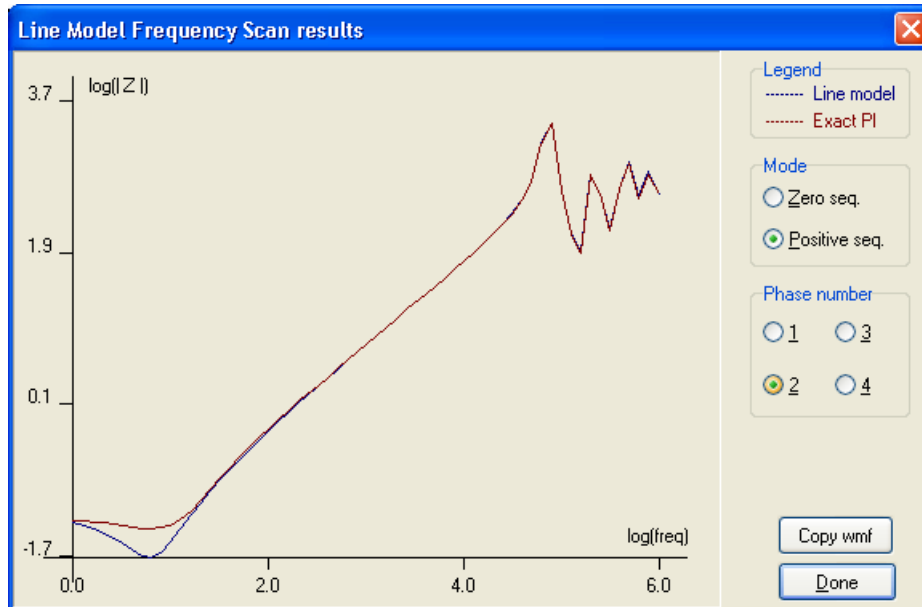

Fig. 5.36 - Verifying a JMarti line model 1 Hz to 1MHz. Model is OK for $f > 25$ Hz.
a) Select LMFS: Clicking on *OK* will result in the generation of a LMFS data case called *xVerify.dat* and execution of ATP based on the settings of the default ATP command (*Tools/Options/Preferences*). The sources are specified in include files called *xVerifyZ.dat*, *xVerifyP.dat*, and *xVerifyM.dat* for the zero, positive and mutual sequence respectively. The individual circuits are tested simultaneously. The receiving ends are all grounded (over 0.1 mΩ) and all sending ends (if *Circuit number* > 0) attached to AC current sources of 1 Amps. The phase angle of the applied current source for the i^{th} conductor is $-360 \cdot (i-1)/n$ where n is the total number of conductors belonging to that circuit. Phase angle for the zero sequence tests are zero. The mutual coupling works only for 6-phase lines. For circuit one all phases are supplied with zero phase angle sources, while the phase conductors of the other circuit at the sending end are open. The *View old case* button will skip creation of the LMFS data case and trace the program directly to the procedure that reads the *xVerify.lis* file, which contains the input impedances of the electrical model compared to the exact PI-equivalent as function of frequency under various conditions. ATPDraw can read this file and interpretation of the results is displayed in the *LMFS results* window as shown in Fig. 5.36 for the 4-phase JMarti line-model specified in Fig. 5.35.
In Fig. 5.36, the user can select the *Mode* and the *Phase number* of which the absolute value of the input impedance is displayed to the left in a log-log plot. It is also possible to copy the curves to the windows clipboard in metafile format (*Copy wmf*). The absolute value of the input impedance of the model and the exact pi-equivalent can be compared for the following cases: